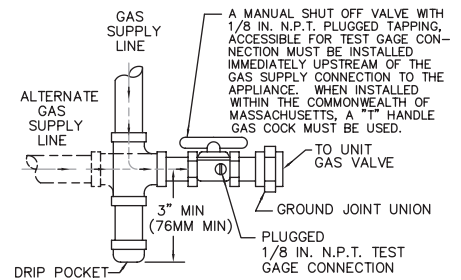

Figure 4 – Pipe Installation, Standard Controls
Pipe directly into the combination valve (See Figure 4).
7. Provide a drip leg in the gas piping near the gas unit heater. A ground joint union and a manual gas shutoff valve should be installed ahead of the unit heater controls to permit servicing. The manual shutoff valve must be located external to the jacket (See Figure 4).